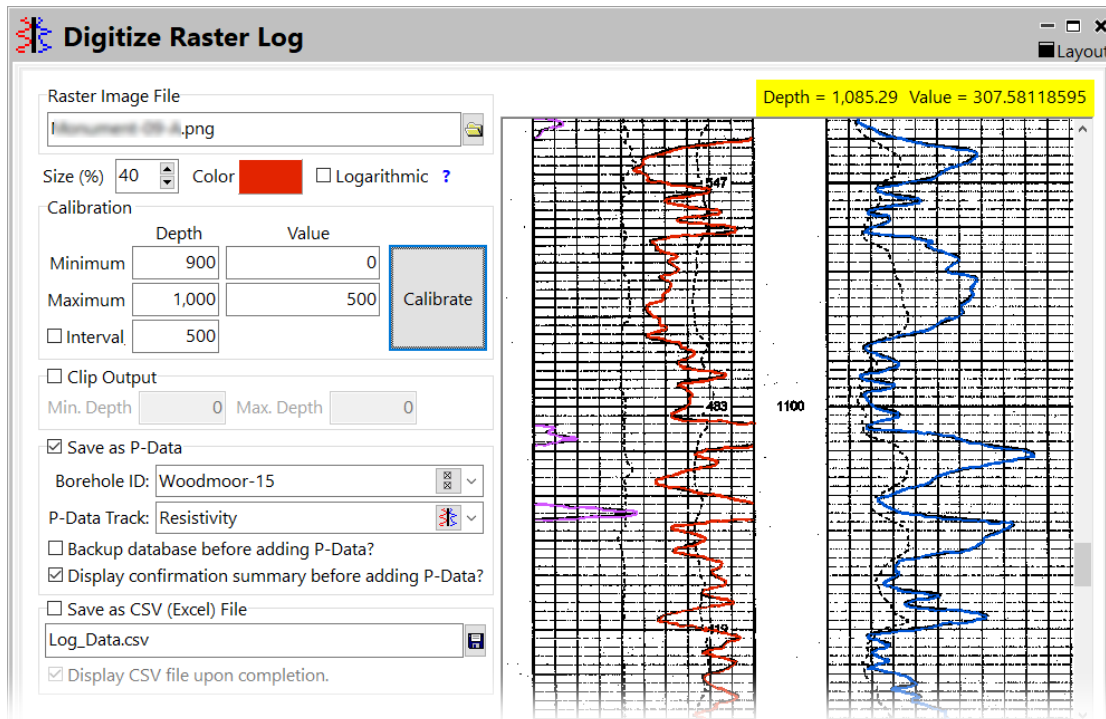

Figure 5
- Once the image has been displayed, use the *Size* option (Figure 5) to enlarge an area of interest.